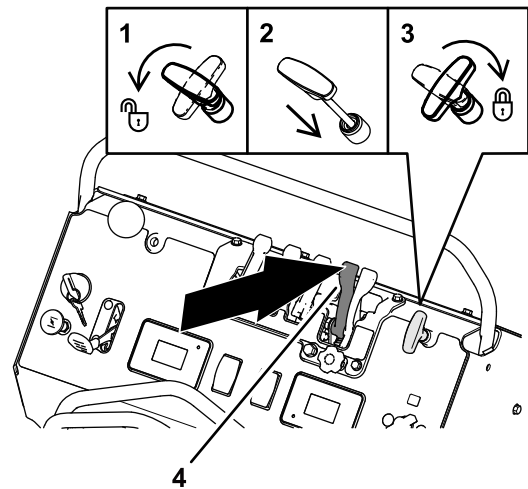

Figure 98
3. Close the impeller gate by pushing the heavy distribution granular-gate lever forward fully (Figure 98).
4. Rotate the spread-pattern-control handle counterclockwise, push the handle down, and rotate the spread-pattern-control handle clockwise(3) refer to Figure 98.